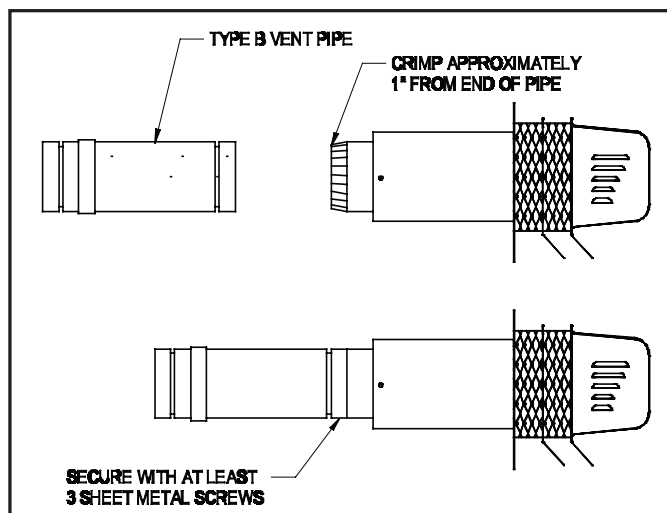

Figure 8
1. Using a hand crimper or a like device, crimp the inner pipe of the SWG power venter approximately 1" long. (See Figure 8)
3. Secure the vent pipe to the SWG power venter inner pipe with at least three (3) #8 sheet metal screws. Pre-drilling the holes through both pipes will allow easier fastening.